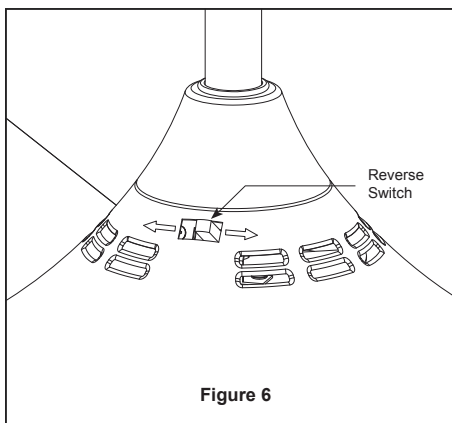

Figure 6
- ☐ 6. Secure the glass to light kit by twisting in a clockwise direction. Twist the glass gradually **until it snaps onto the light kit**. Do not over-tighten. (Figure 6)
- ### 6. If airflow is desired in the opposite direction, turn the fan off and wait for the blades to stop turning. Then slide the reverse switch on top of motor assembly to the opposite position and turn fan on again. (Figure 6)